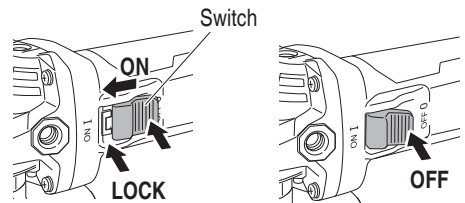

Fig. 3
- 2. Turn the grinder "on". (Fig. 3)
Turn the grinder "OFF" (Fig. 3)